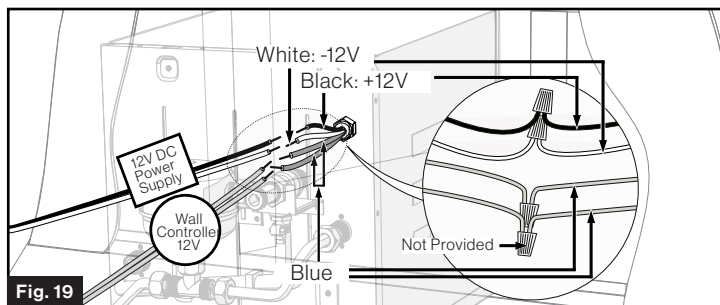

Fig. 19
2. Connect the power supply wires (on rear of water heater - white and black wire) to the appropriate nominal 12V DC power source connection. (Fig. 19)
3. Connect the wall controller wires (2 blue wires on the appliance). (Fig. 19)